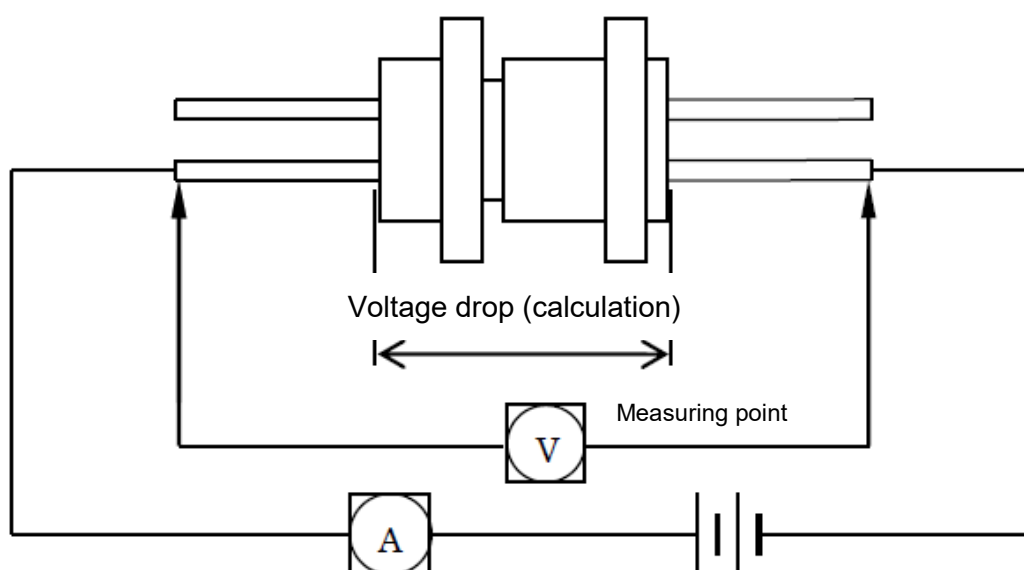

Figure-1 Test Circuit for Contact Resistance
Mated connectors shall be tested as follows. Test circuit for contact resistance is shown in Figure-1.
- c) After applying specified current to contacts at ambient temperature $25^{\circ}\text{C} \pm 3^{\circ}\text{C}$ and contact temperature is stabilized, voltage drop for each mated contacts within specified range (Figure-1) shall be measured.
- a) Connectors shall be mated to the same depth as common use and voltage drop shall be measured within specified range (Figure-1).